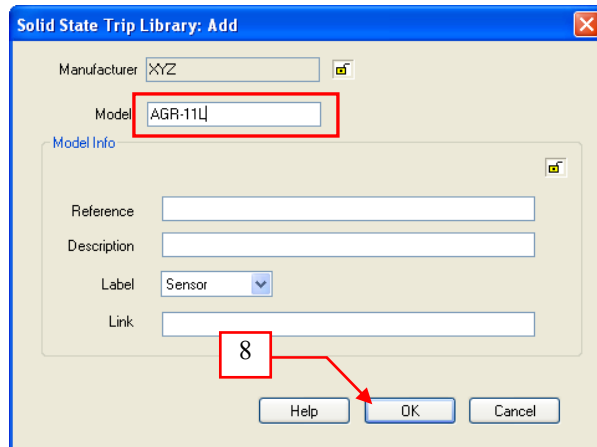

Fig. 4
8. On the “Solid State Trip Library: Add” dialog window, enter the model name “AGR-11L” and click the “OK” button. See Fig. 4.